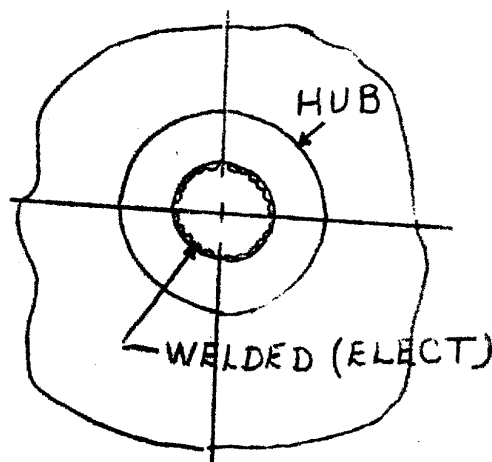

Fig 2.
2. The Railroad Administration of Latvia had technical standards for wheel and axle sets which showed the minimum pressure between axle and hub. When the pressure between the hub and the axle became too low, the wheel had to be removed. The inside of the hub hole had to be welded electrically and turned out on a right interval diameter (Fig 2). A wheel so prepared was then ready for assembly.